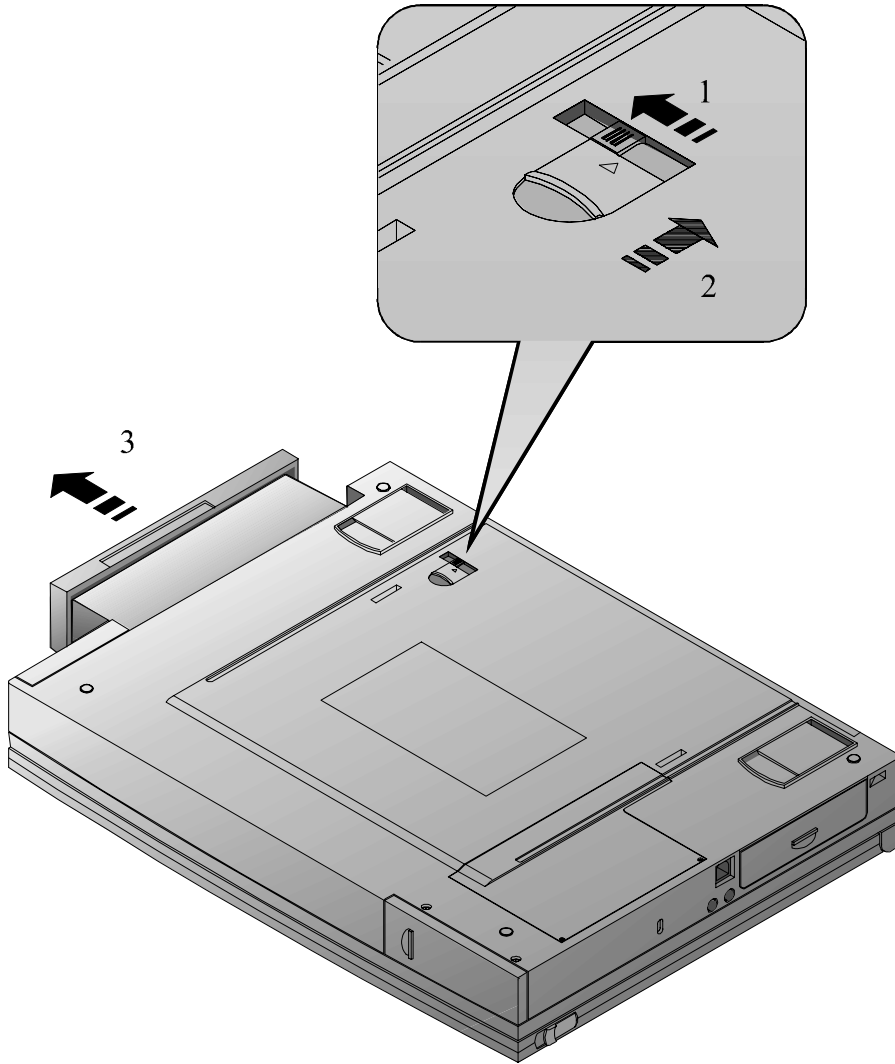

Figure 6-3: Removing the FDD Module
1. Slide the locking button in the direction of the arrow shown in step 1 of Figure 6-3. This will unlock the Module Release latch.
2. Slide and hold the Module Release latch in the direction of the arrow shown in step 2 of Figure 6-3.
3. Holding the Module Release latch in this position, slide the FDD module out of the expansion bay. Please see step 3 in Figure 6-3.